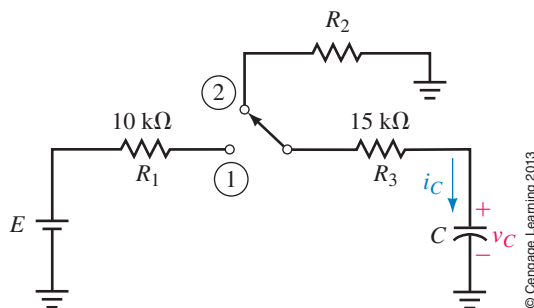
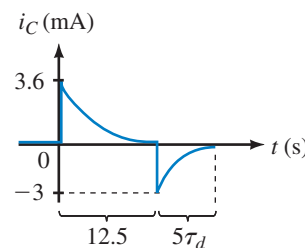

FIGURE 11-54
FIGURE 11-58
27. For Figure 11-54, let $E = 200$ V, $R_2 = 1$ k Ω , and $C = 0.5$ μ F. After the capacitor has fully charged in position 1, the switch is moved to position 2.
28. For Figure 11-54, C is fully charged before the switch is moved to discharge. Current just after it is moved is $i_C = -4$ mA and C takes 20 ms to discharge. If $E = 80$ V, what are R_2 and C ?
32. Consider again Figure 11-54. Suppose $E = 80$ V, $R_2 = 25$ kΩ, and $C = 0.5$ μF:
33. For the circuit of Figure 11-54, the capacitor is initially uncharged. The switch is first moved to charge, then to discharge, yielding the current shown in Figure 11-58. The capacitor fully charges in 12.5 s. Determine E , R_2 , and C .